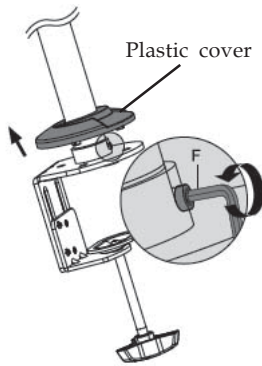

Figure 3
1. Lift up the plastic cover and use a 3mm Allen Key (F) to remove the Hex Nut from the C-Clamp, see Figure 3.